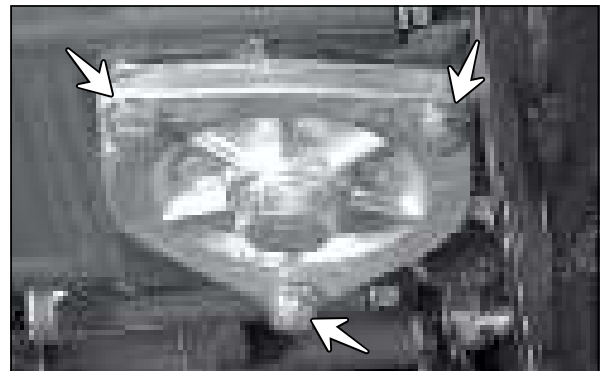

Fig. 2.32
- Loosen and remove the hexagonal flange head bolts (M6x20 - 3 Nos.). (Fig. 2.32)